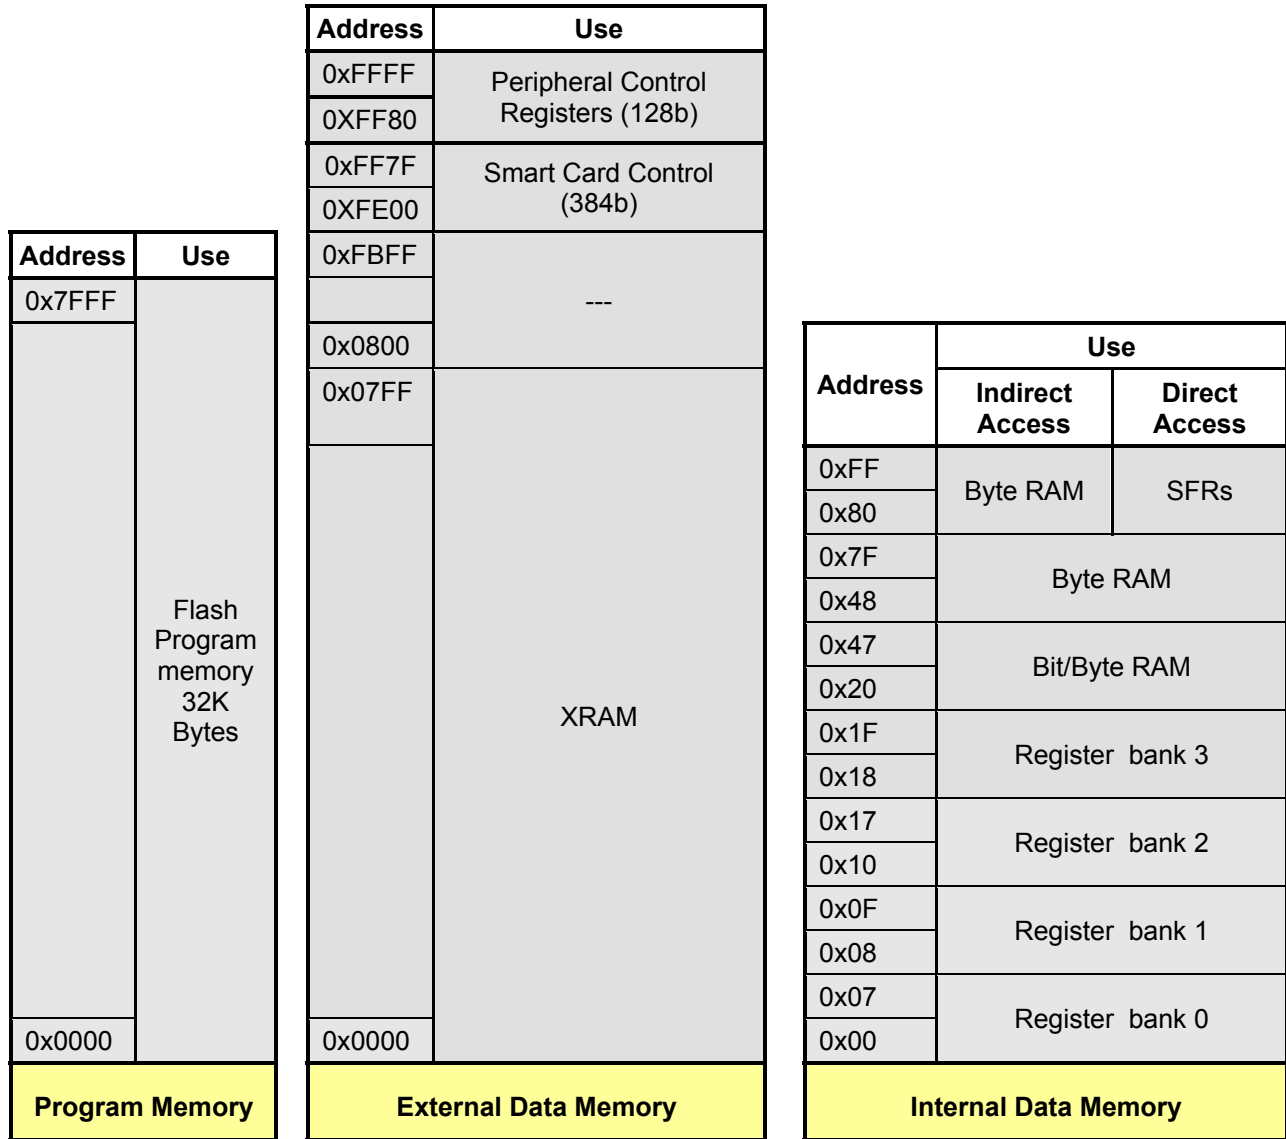

Figure 2: Memory Map
**External Data Memory:** While the 80515 can address up to 64KB of external data memory in the space from 0x0000 to 0xFFFF, only the memory ranges shown in Figure 2 contain physical memory. The 80515 writes into external data memory when the MPU executes a MOVX @Ri,A or MOVX @DPTR,A instruction. The MPU reads external data memory by executing a MOVX A,@Ri or MOVX A,@DPTR instruction.